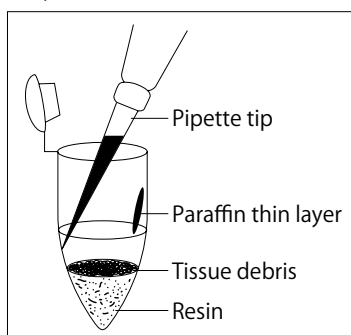

Figure 2
5. Remove the paraffin thin layer to the tube wall and collect the supernatant using micropipette (Figure 2). Be sure not to withdraw the tissue debris and resin.